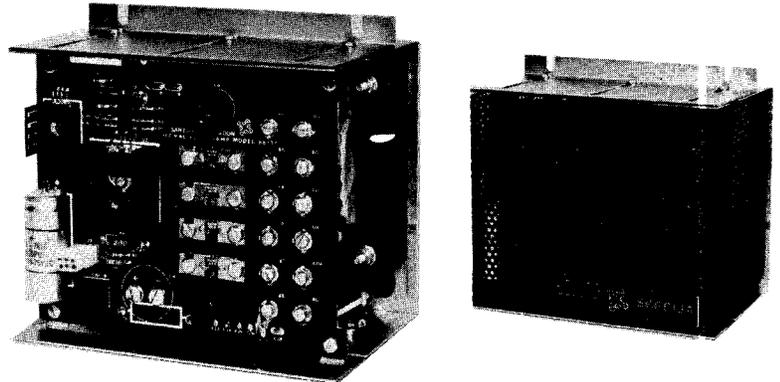

Figure 1 SB6613A Power Supply
1.1 This section provides a circuit description, installation and basic testing information for the San/Bar SB6613A Power Supply (Fig. 1). The SB6613A is designed for use in the San/Bar 6615A KTS with up to 29 lines. SB6613A is also compatible with all types of key telephone systems working in conjunction with central office or PBX/PABX equipment. The SB6613A can also be wall mounted.